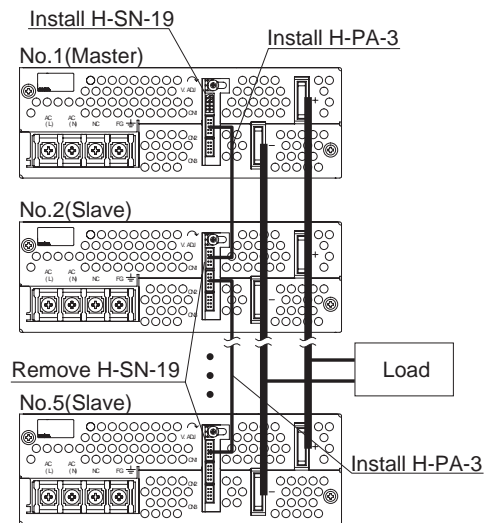

Fig.4.3 Examples of connecting parallel operation
■ Parallel operation is available by connecting the units as shown in Fig.4.3.